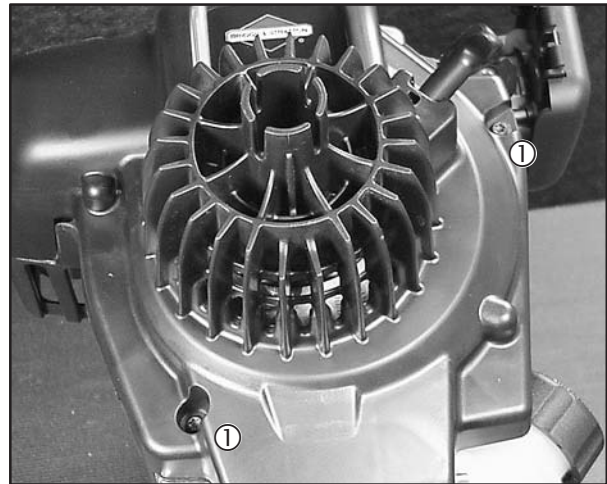

Fig. 1
1. Remove 2 screws (1) from blower housing Fig. 1.